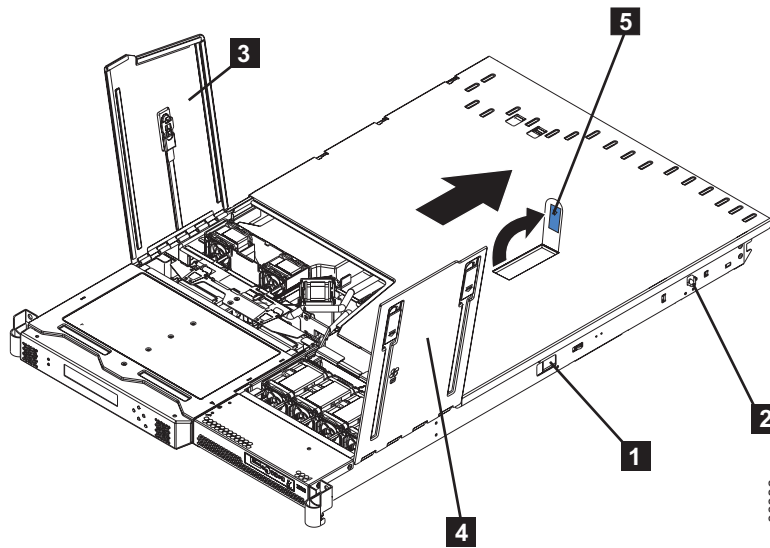

Figure 53. SAN Volume Controller 2145-8F2 or SAN Volume Controller 2145-8F4 with fan doors open
- b. Slide both side release latches (left and right) toward the front of the node. Make sure that both rail-lock pins (**2** in Figure 53) are in a vertical position, pull the node out, and remove it from the rack.